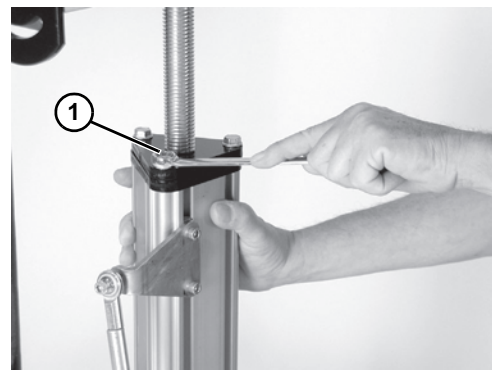

Figure 20
5. Loosen the three tri-lobe hex head screws (Figure 20, item 1).
Failure to secure screws (**Figure 20, item 1**) may cause conveyor sections to drop down, causing severe injury.
TIGHTEN ALL SCREWS (Figure 20, item 1) AFTER ADJUSTMENT.
7. Re-tighten tri-lobe hex head screws (**Figure 20, item 1**) to 100 in-lb (11 N-m).